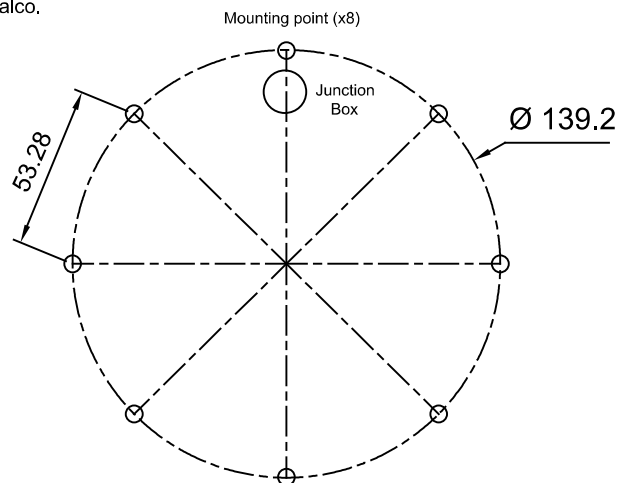

Fig. 1
1. Mount the couplers (x8) to the ceiling using appropriate fasteners (not included) according to the structure of the ceiling (Fig. 1)